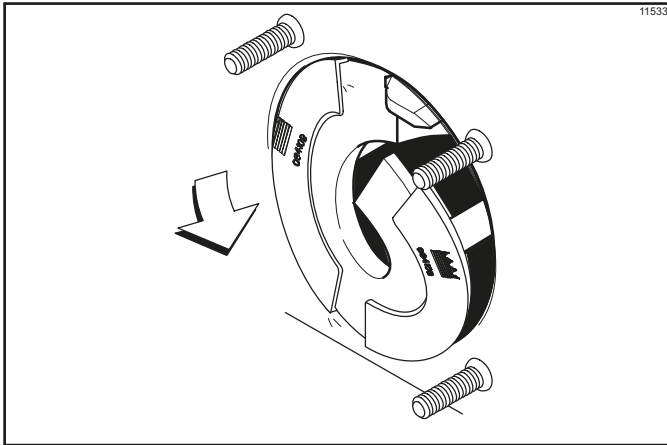

Figure 6-7
- Slide the beater assembly the rest of the way into the freezing cylinder. Make sure the beater assembly is in position over the drive shaft by turning the beater slightly until the beater is properly seated. When in position, the beater will not protrude beyond the front of the freezing cylinder. (See Figure 6-7.)